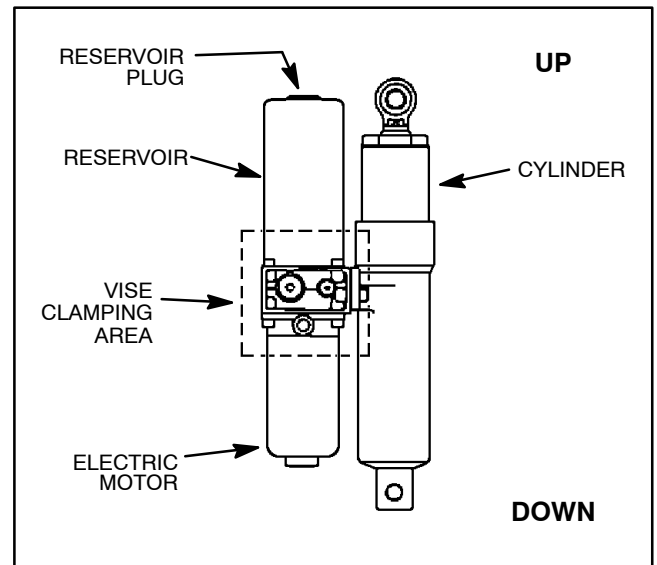

Figure 49
3. Place the actuator in a vise making sure that actuator is clamped in the area identified in Figure 49. Use just enough clamping force to hold the housing securely. Make sure that the reservoir plug is orientated up.